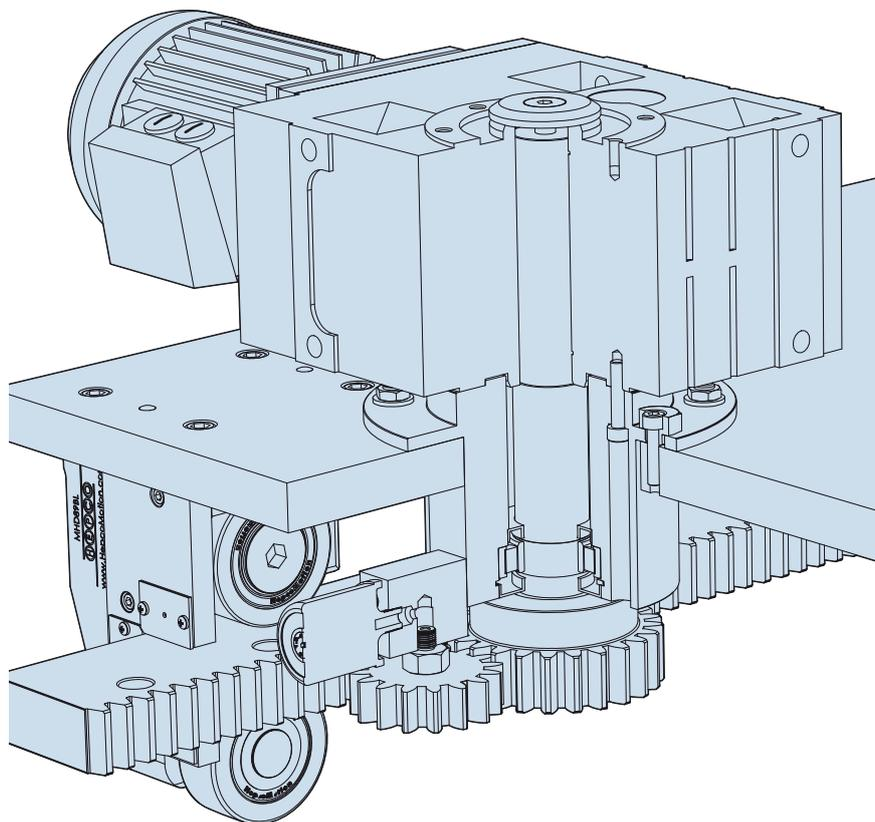

Figure 10
29. For systems where a rack and pinion have been specified, the pinion must be set with the correct engagement in the rack. To facilitate this setting, it is recommended that the pinion be provided with an adjustment facility. Figure 10 shows an assembled driven carriage which incorporates an adjustment feature to set rack and pinion engagement via an eccentric bush. In normal circumstances, there should be a minimal clearance between the rack pitch line and the pinion pitch circle, and this can be checked by rotating the pinion with the carriage position locked. It is recommended that backlash be set at  $\sim 0.12^\circ$ .